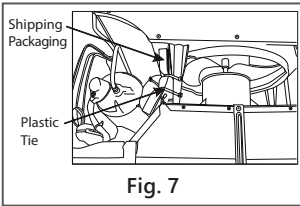

Fig. 7
- J. Your unit may come with internal packaging. This packaging must be removed prior to installing the air conditioner back into the cabinet. (see Fig. 7).